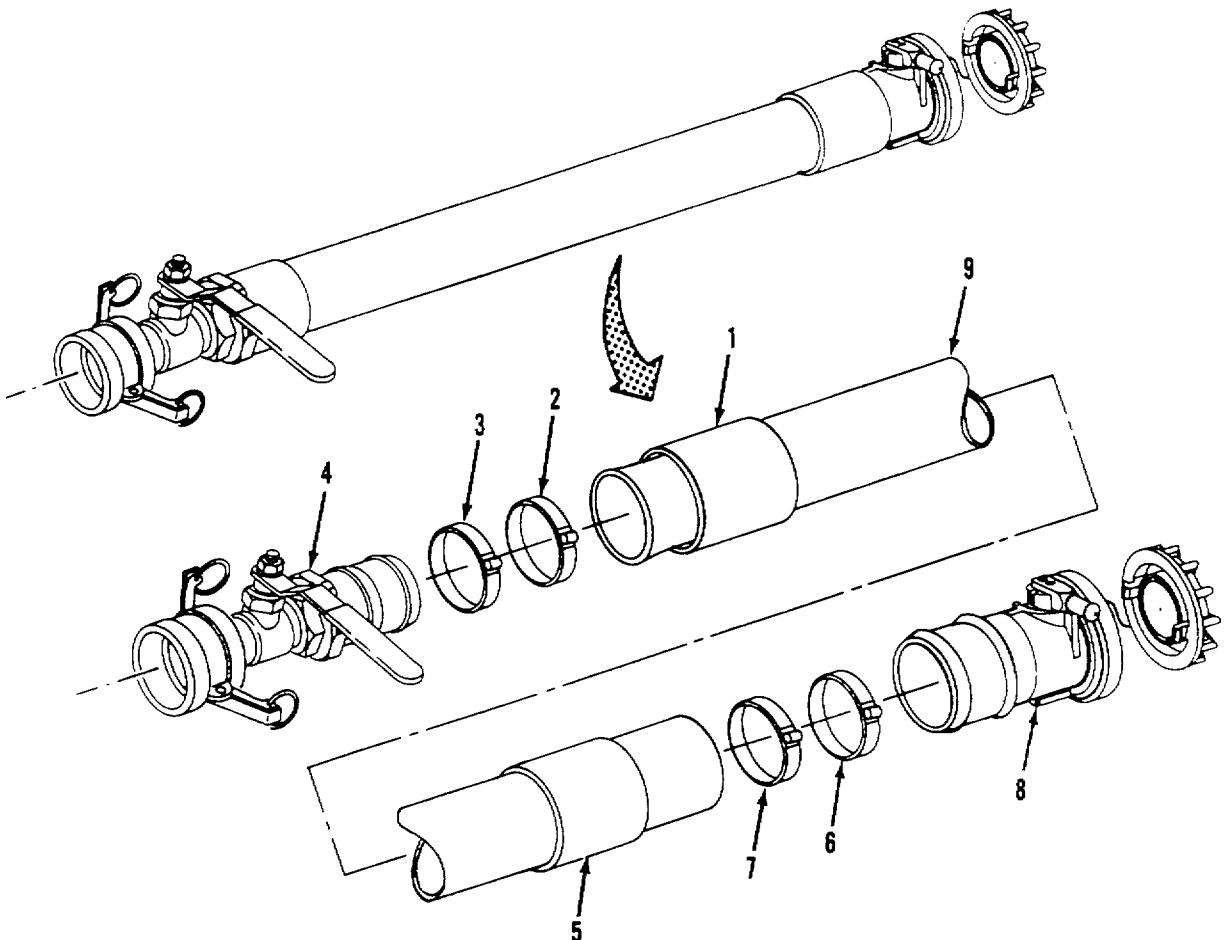

Figure 4-16. 3-Inch Fuel Hose Disassembly.
a. Disassembly. Refer to figure 4-16.
- (1) Slide rubber sleeve (1) from top of clamps (2 and 3).
- (2) Cut clamps (2 and 3) from hose (9).
- (3) Remove ball valve assembly (4) from end of hose (9).
- (4) Slide rubber sleeve (5) from top of clamps (6 and 7).
- (5) Cut clamps (6 and 7) from hose (9).
- (6) Remove valved dry break coupling assembly (8) from end of hose (9).